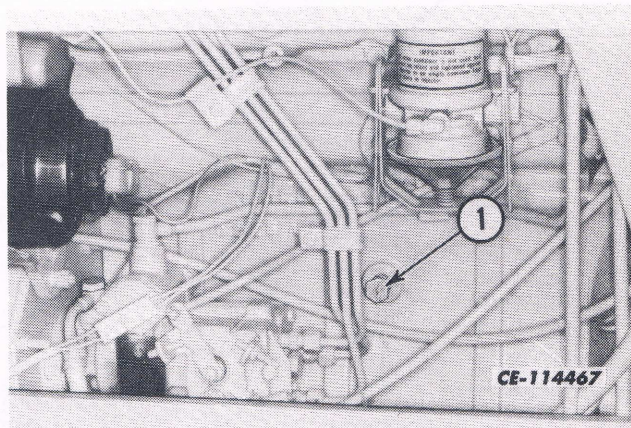

Fig. 18. Crankcase Coolant Drain Plug
4. Remove the crankcase coolant drain plug (1, Fig. 18) from the left side of the engine.